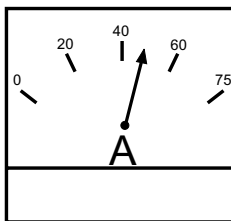

Figure 38. Ammeter (Load)
18. Look at the generator's ammeter (Figure 38) and verify that it reads the anticipated amount of current with respect to the load. Remember the ammeter will only display a current reading if the load is in use.